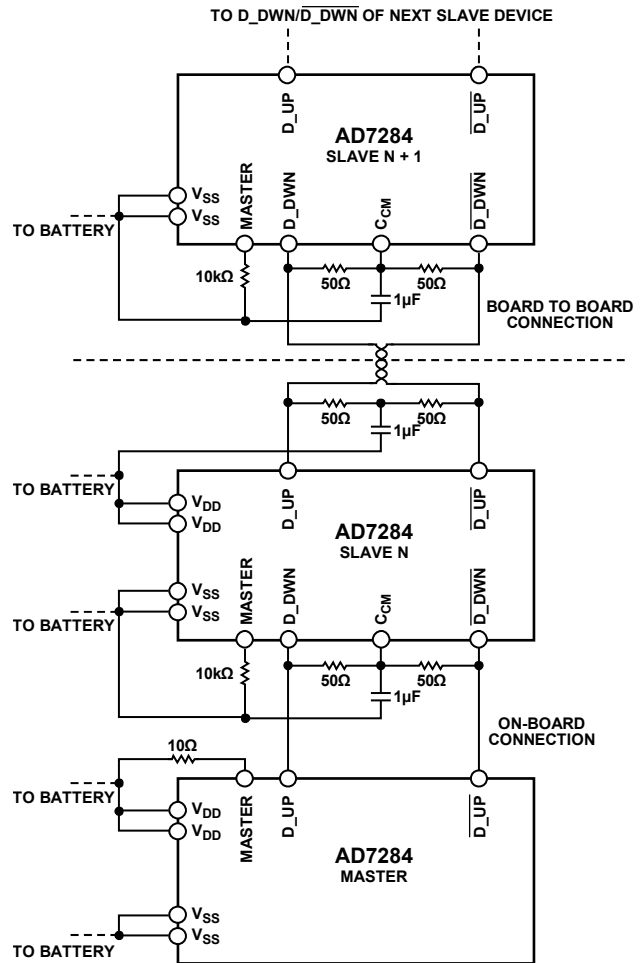

Figure 40. AD7284 Daisy-Chain Interconnection Examples (Additional Circuitry Omitted for Clarity)
The daisy-chain interface consists of a differential daisy chain for up paths (D_UP/D_UP) and down paths (D_DWN/D_DWN). When multiple devices are configured in a chain, the up paths from the master are connected to the down paths of the adjacent slave. Similarly, the up paths on the other side of the slave device interfaces to the down path of the next adjacent slave device, and so on, as shown in Figure 40.
Additional protection circuitry beyond what is shown in Figure 40 may be required on the daisy-chain pins for hot plug and service disconnect (see the Hot Plug section and the Service Disconnect (SD) section).